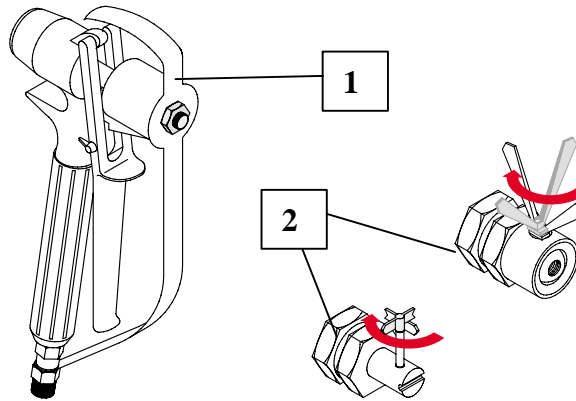

Fig.39
4) After a few seconds when there is no longer any air inside the circuit (fig.39, detail A) close the discharge tap (fig. 34, detail B).